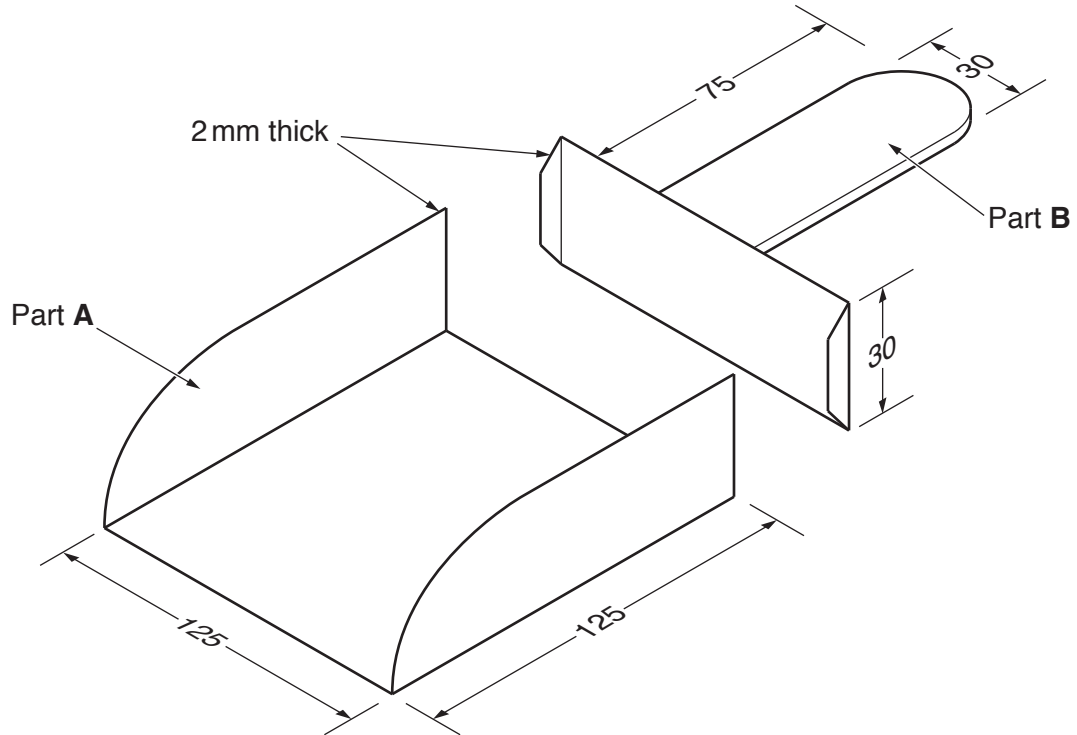

Fig. 1.1
- 1 Fig. 1.1 gives details about an aluminium sweet scoop that is to be made in a school workshop.